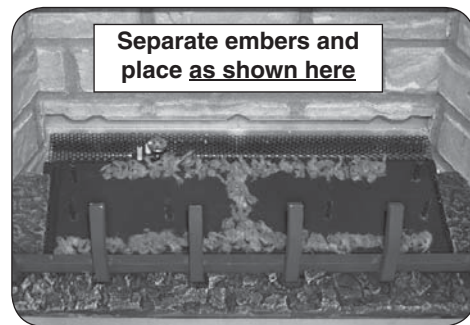

Fig. 33-1 D1-25: Place glowing embers
1. Separate the glowing embers into small pieces and evenly place them along the burner ports as shown in Fig. 33-1.